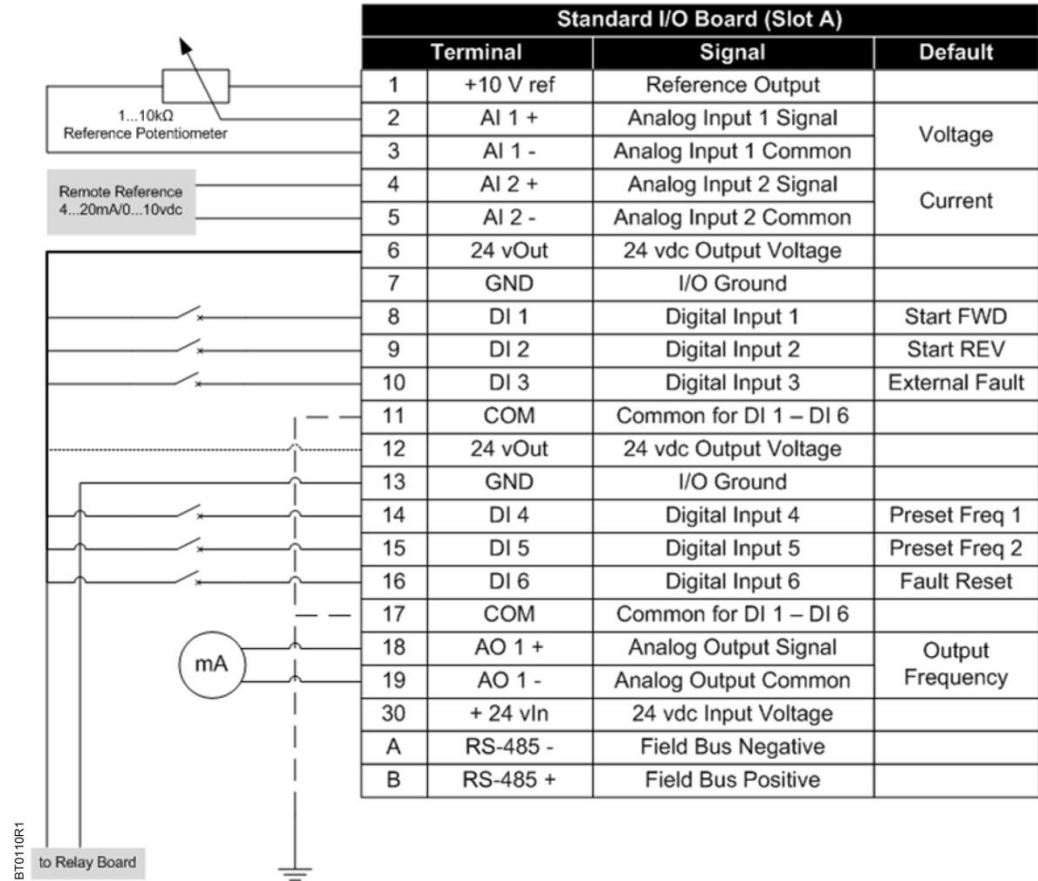

Figure 38: Control I/O Terminal Signals on Basic I/O Board and Connection Example.
- b. Form the rest of the cable shield of all cables into “pigtailed” and make a grounding connection as shown in Figure 38 [→ 40] (b) using the clamp from the *Accessories bag*.